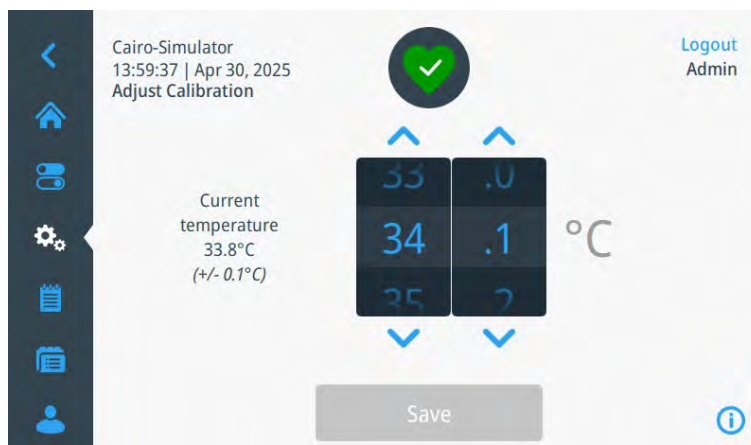

Figure 7-60. Adjust Temperature Calibration
4. Tap „Calibrate“ if the temperature measurements are equal. Screen „Adjust Temperature Calibration“ appears (Figure 7-60).